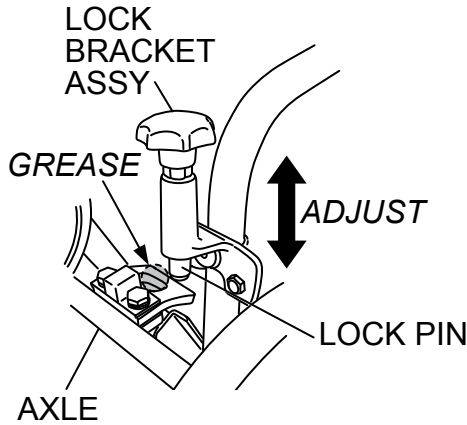

Figure 5. Lock Bracket Height Adjustment
- Adjust the height of the lock bracket assembly to align lock pin with axle stopper hole (Figure 5).